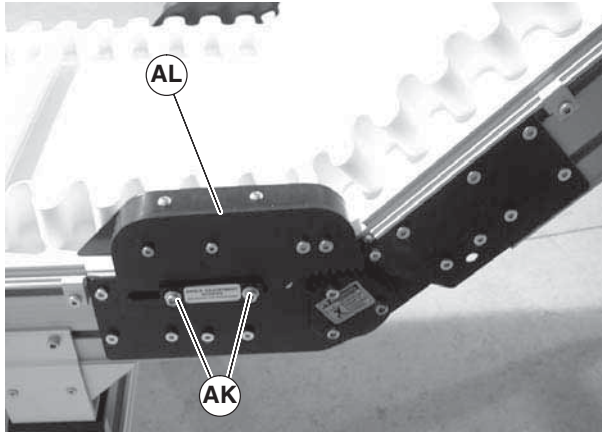

Figure 31
3. Install belt (Figure 31, item AQ) on conveyor. Lift conveyor slightly to avoid pinching belt on temporary support stands.